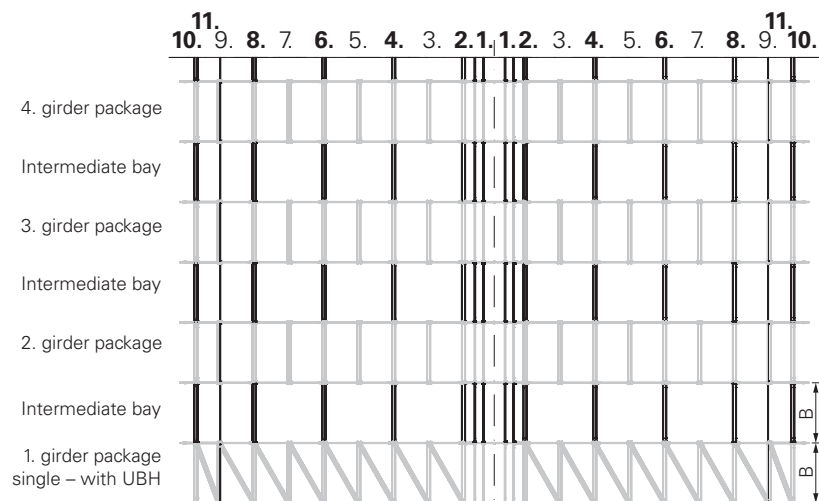

Fig. A12.04a
- Connect the individual girder packages with Horizontal Ledgers UH-2. (Fig. A12.04a)